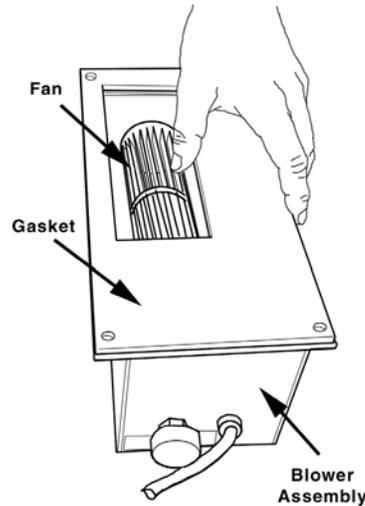

Figure 8 – Blower Option
12. Place blower gasket onto blower assembly (Figure 8) so as not to obstruct the air flow from the fan.